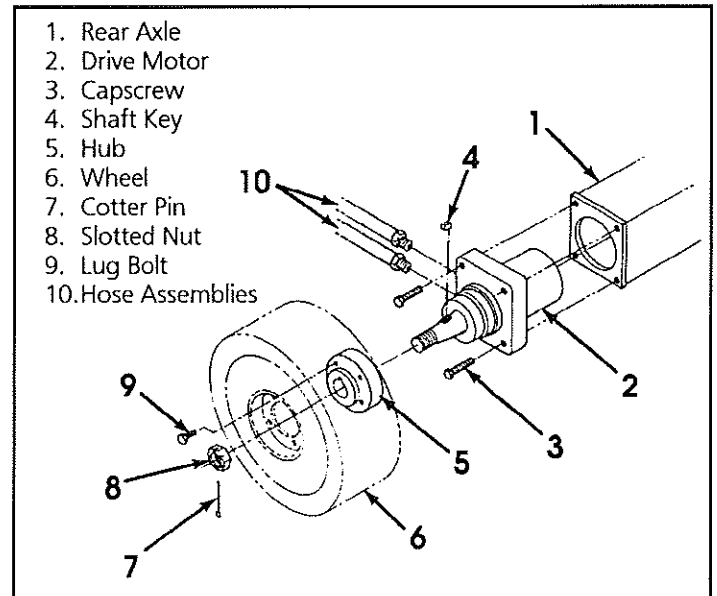

Figure 4-14: Drive Motor Installation
4.9 Hydraulic Drive Motors And Hubs (Figure 4-14)